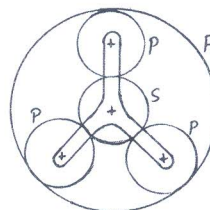

Fig.Q4(a)
- 4 a. In an epicyclic gear train as shown in Fig.Q4(a), the pitch circle diameter of the annular wheel A is 425mm and the module is 5mm. When the annular wheel is stationary, the spider which carries 3 planet gears P of equal size has to make one revolution for every 6 revolutions of the driving spindle carrying sun wheel S. Determine the number of teeth an all wheels.